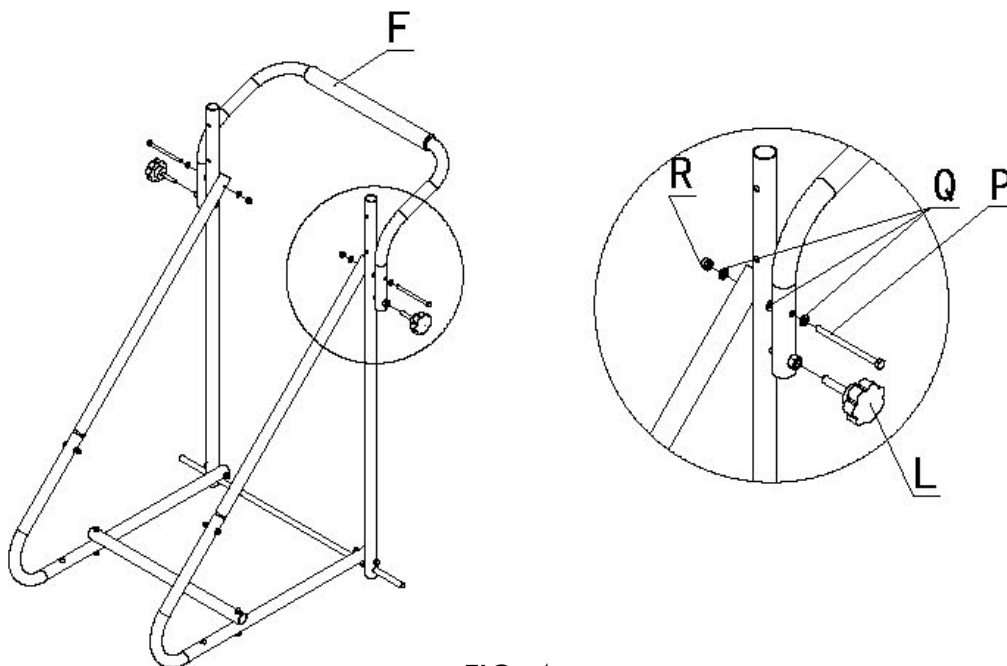

FIG. 4.
Step 4. Connect handle tube (f) together through M6*90 bolt (P), 6*12 flat washer (Q) and M6 lock nut (R), and then screw on turn knob M8*40 (L) See FIG. 4.